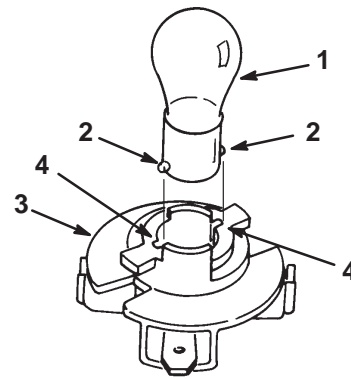

Figure 32
7. Push and rotate the bulb counterclockwise until it stops (approximately 1/4 turn) and remove the bulb from the bulb holder (Fig. 32).
1. The bulb has metal pins on the side of its base. Align the pins with the slots in the bulb holder and insert the base into the holder (Fig. 32). Push and rotate the bulb clockwise until it stops.